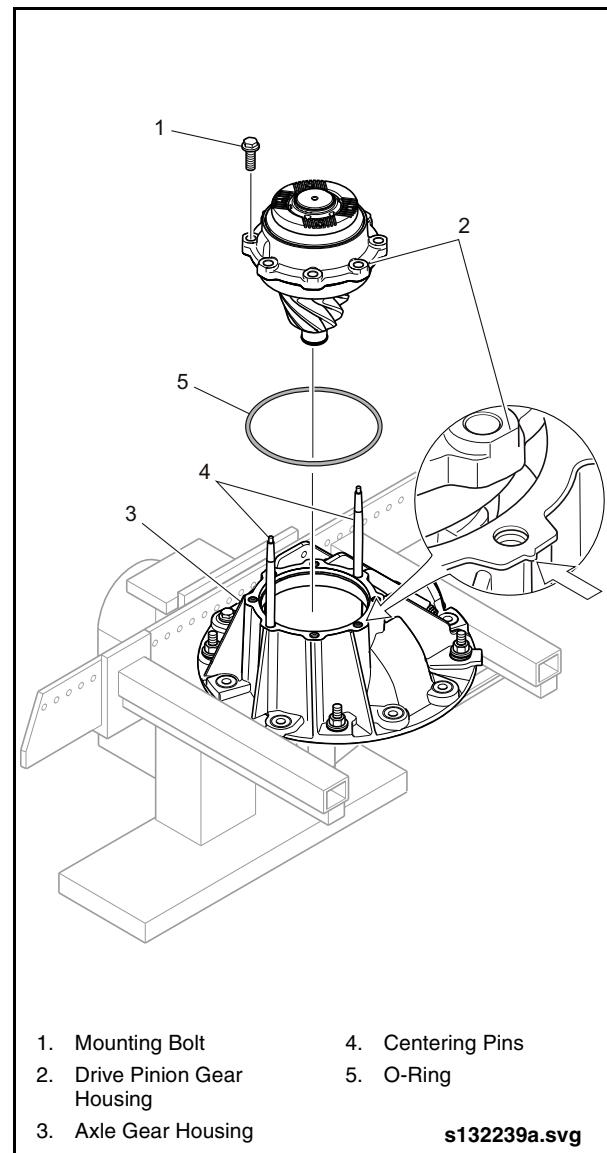

Fig. 2-81: Installing Drive Pinion Gear Housing
3. Carefully lower the pinion gear housing over the Centering Pins (Item 78 from Special Tools List), ensuring that marks on the drive pinion gear housing and axle gear housing are aligned. See “Fig. 2-81: Installing Drive Pinion Gear Housing” on page 68.